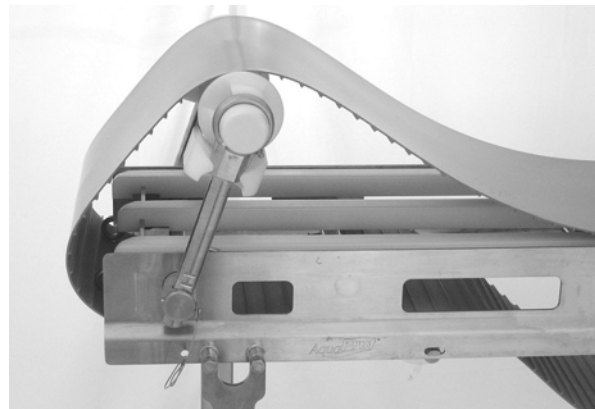

Figure 46
1. Place the idler tail assembly in the UP position (Figure 46).